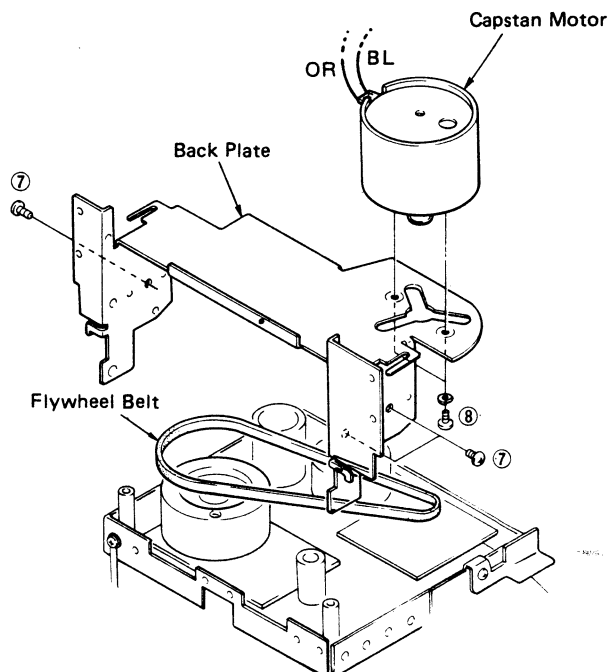

Fig. 3
- Remove 3 screws (⑦) in Fig. 3 and then remove the back plate.
- Remove 2 screws (⑧) in Fig. 3 and then remove the Capstan Motor.